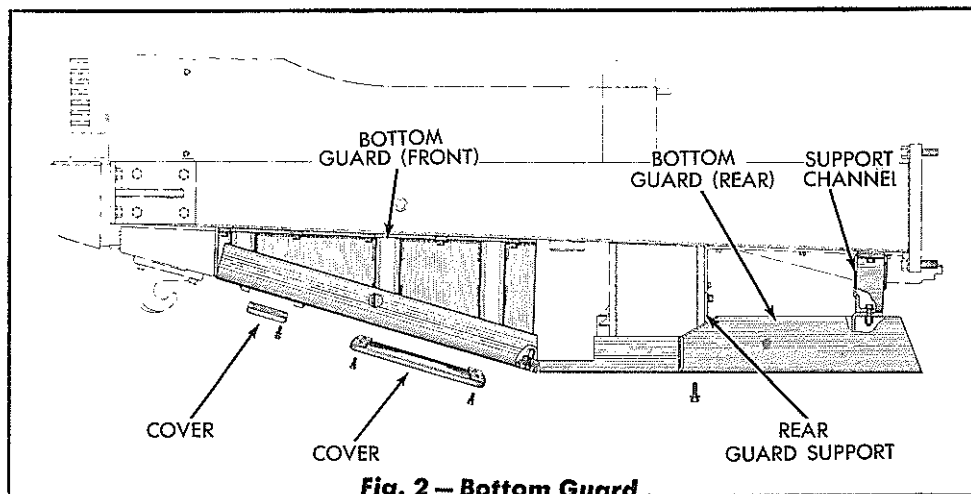

Fig. 2 — Bottom Guard
The bottom guard group is attached to the tractor with capscrews and requires only periodic maintenance checks. The attaching capscrews should be kept tight. Refer to Fig. 2.
3. Install the pressure switch wires and hour meter wires as shown in Fig. 2 in Section VIII. The small hour meter wire is grounded to the engine temperature gage, the large wire is fastened to either terminal of the pressure switch. The other terminal of the pressure switch is connected to the left side of the ammeter as viewed from the rear.